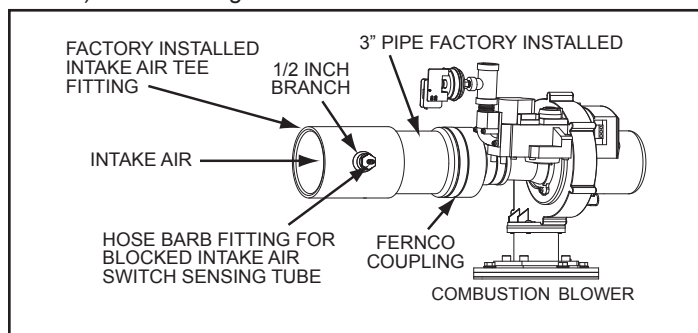

Figure 19. Intake Air Connection
- If installing two- or four-inch intake air pipe, transition to three-inch pipe at the intake air connection on the water heater as shown in **Figure 19**. The field installed three-inch pipe between the intake air connection and the reducer coupling should be 18 inches (45 cm) or less in length.